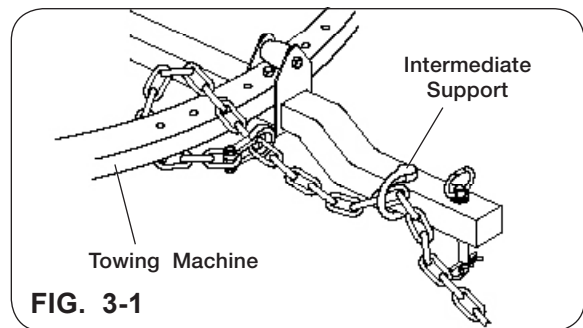

FIG. 3-1
2. Install the transport chain (as shown in Fig. 3-1).